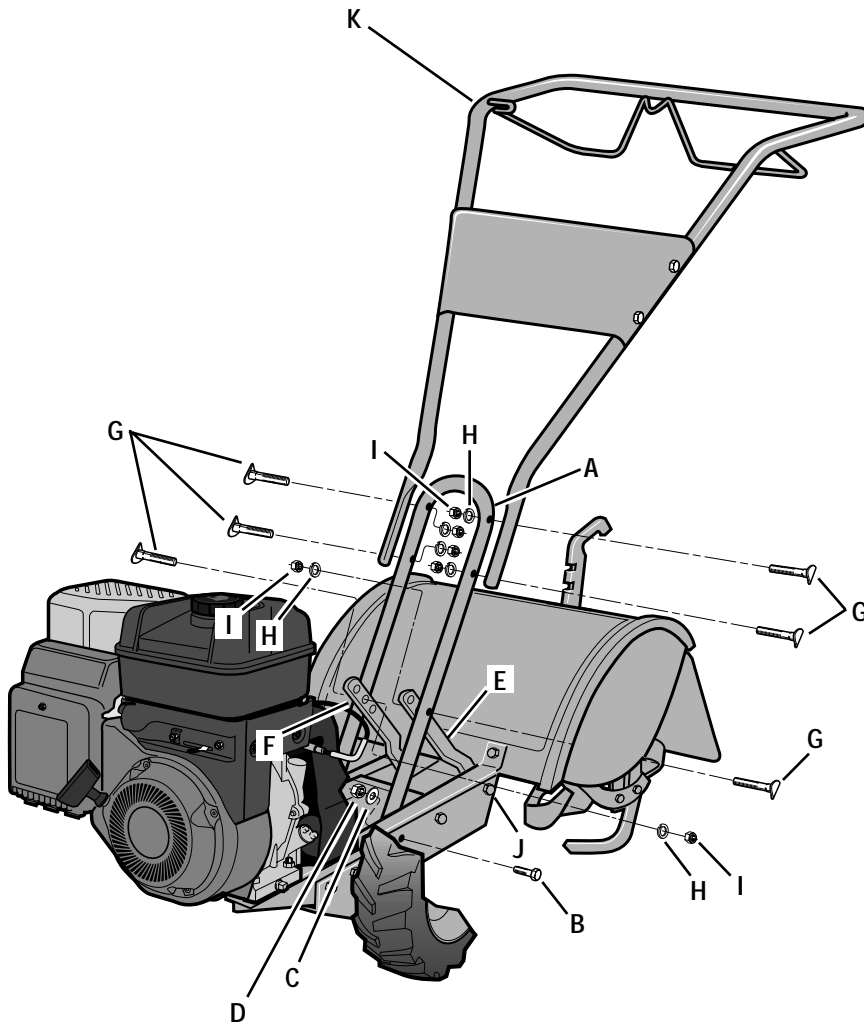

Fig. 2-2: Attach handlebar.
1	Handlebar Support (see A, Fig. 2-2)
1	Handlebar Assembly (see K, Fig. 2-2)
1. Loosely attach the legs of the handlebar support (A, Fig. 2-2) to the inner sides of the tiller frame using two 3/8"-16 x 3/4" hex hd. screws (B), 3/8" flat washers (C) and 3/8"-16 hex locknuts (D).
2. There are three height adjustment holes in the two handlebar support brackets (E and F, Fig. 2-2). Use a setting that will position the handlebars at approximately waist level when the tines are 3"-4" into the soil. Loosely attach the support brackets to the handlebar support (A) using two 5/16"-18 x 1-1/2" screws (G), 5/16" split lockwashers (H) and 5/16"-18 hex nuts (I). NOTE: If a support bracket will not move, loosen attaching screw (J) and nut.
3. Attach the handlebar assembly (K) to the handlebar support (A) using four 5/16"-18 x 1-1/2" screws (G), 5/16" split lockwashers (H) and 5/16"-18 hex nuts (I). Tighten the four screws securely.